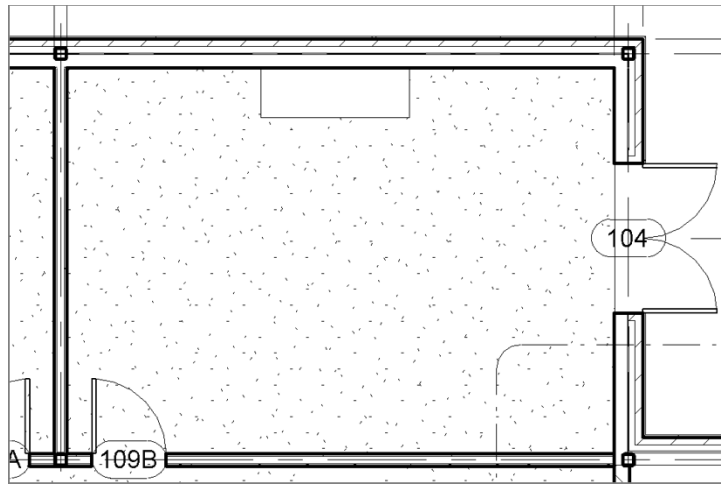

FIGURE 9.52: Placing the credenza desk into the first office
2. Zoom in to the northeast corner office, as shown in Figure 9.52.
8. Place the credenza desk into the room, as shown near the top of Figure 9.52.